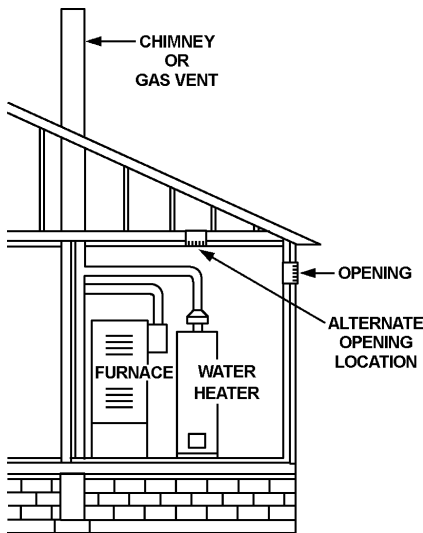

FIGURE 13A.
- Alternatively, a single permanent opening may be used when communicating directly with the outdoors, or with spaces that freely communicate with the outdoors. The opening shall have a minimum free area of 1 square inch per 3,000 BTU per hour (7.3 cm²/kW) of total input rating of all equipment in the enclosure. See Figure 13A.